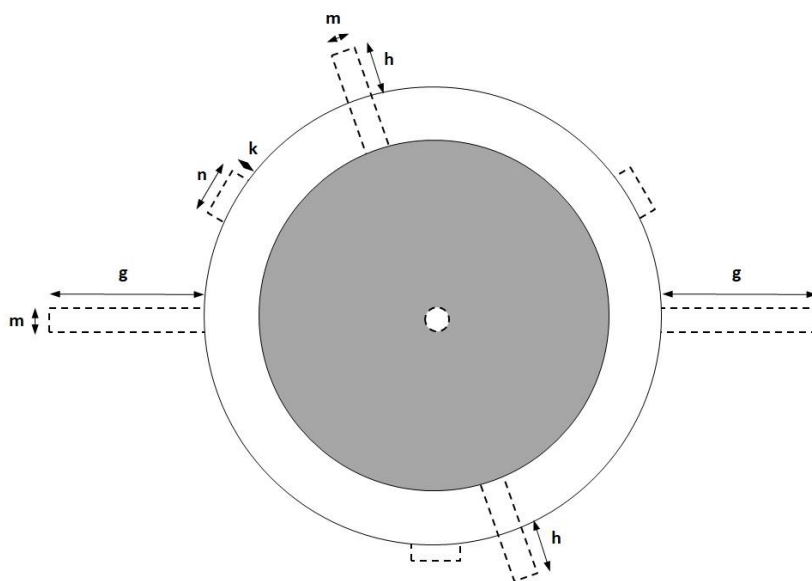

Figure 6 Sketch of excavation (4)
2. Pouring the foundation for the water seal. After the first masonry has been hardened, the space around it can be backfilled and levelled. Plastic sheeting is placed and a 10cm concrete ring is poured. The concrete should also extend into the 3 cavities where the guide poles are to be set (see points n and k in Figure 6 above).